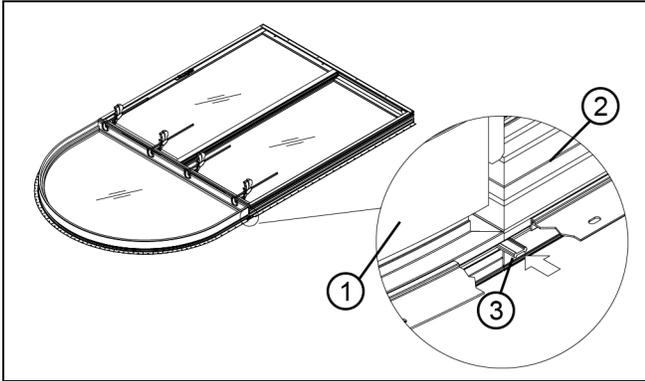

Figure 41
6. Cut the mulling pin 1/2" shorter than the mull joint. Drive mull pin in the full length of sill/head jamb (use hammer if necessary) ensuring it is recessed 1/4" (6) to allow for sealant application later. See Figure 41.